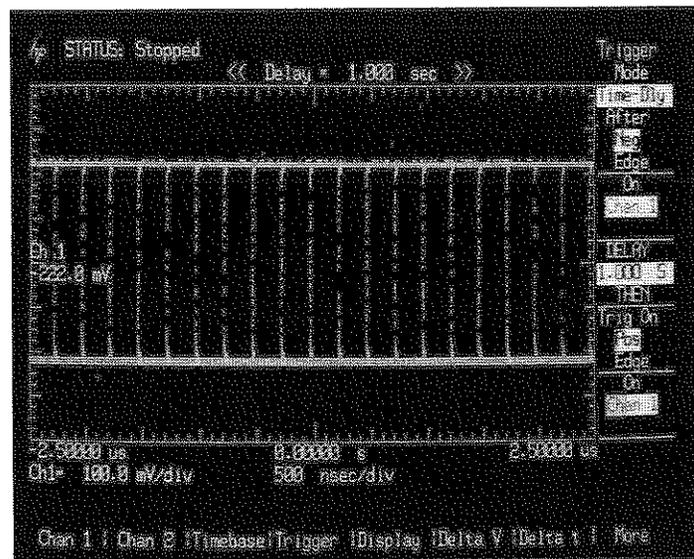

Figure 7-13. Auto Sweep Mode with Delay > 50 ms.
*When AUTO-SCALE is pressed, the unit establishes itself in the auto sweep mode. If the trigger is delayed longer than approximately 50 ms, the auto sweep mode will cause the unit to sweep before the delay period has elapsed. The signal will appear untriggered (see figure 7-13). To eliminate this problem put the unit in the Trg'd mode.*